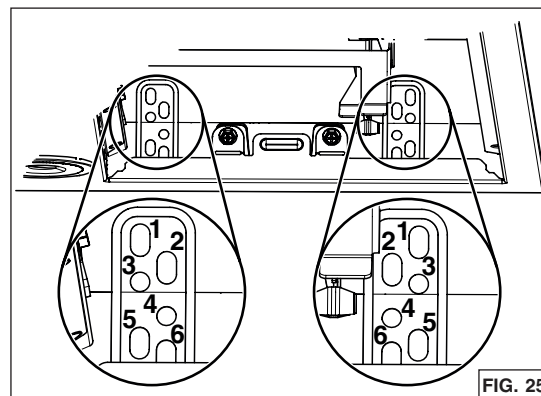

FIG. 25
- Lift the unit until contact is made between the unit flange and cabinet. Secure the unit to the cabinet using 4 no. 8 x 5/8" wood screws included in parts bag (2 screws per side). Use upper or lower holes (1, 2, 3, 4, 5 or 6) (FIG. 25).